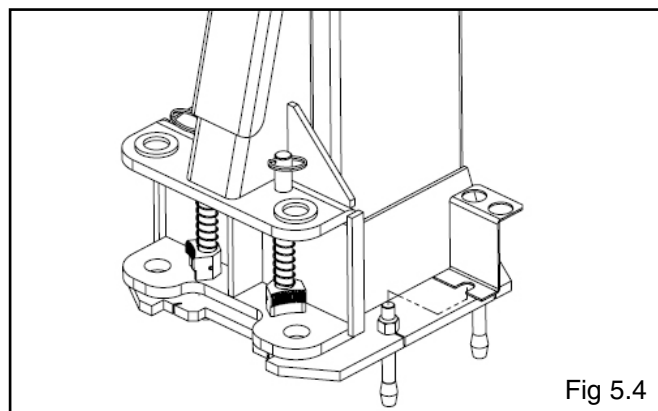

Fig 5.4
6. If installing the optional foot guards, place foot guards on left and right side as shown. (See Fig 5.4)